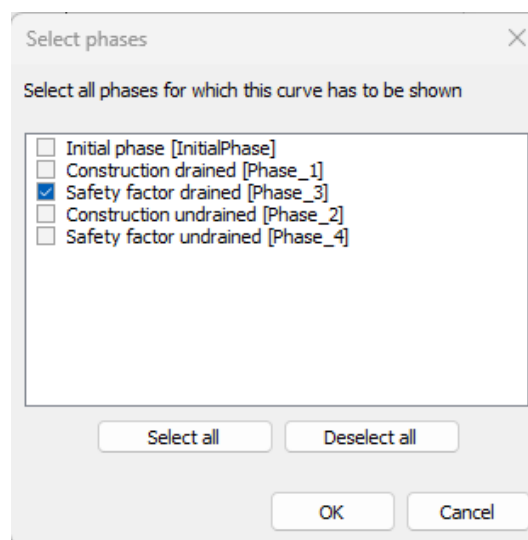

Figure 39: The Select phases window
8. In the **Select phases** window select only Phase 3 as shown in Figure 39 (on page 49):